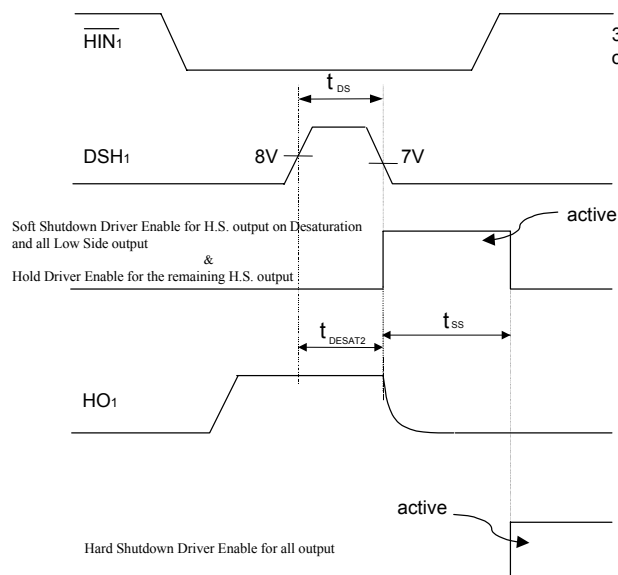

Figure 6.2 High Side Desat Soft Shutdown Timing Waveform
- High side soft shutdown is initiated locally in an event over current, which is sensed by the DSH pin. It is followed by the synchronized soft shutdown of all the low side outputs; meanwhile it will hold all input information for a period of t_{ss} until the soft shutdown finishes. Then the hard shutdown will be initiated to complete the shut down cycle. (Figure 6.2)